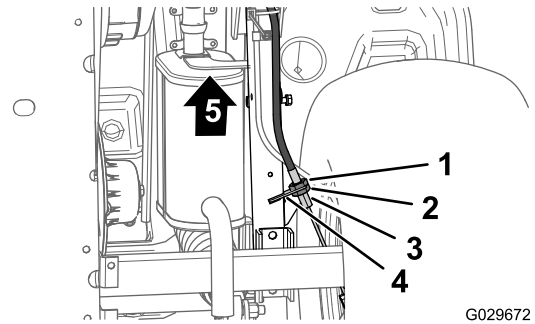

Figure 71
3. At the bottom of the machine, loosen the rear-jam nut for the threaded adjuster of the parking-brake cable 4 turns (Figure 71).
4. Tighten the forward jam nut (Figure 71).
- A. Loosen the forward-jam nut (Figure 71) for the threaded adjuster of the parking-brake cable 1 turn.
- B. Tighten the rear jam nut (Figure 71).
- A. Loosen the rear-jam nut (Figure 71) for the threaded adjuster of the parking-brake cable 1 turn.
- B. Tighten the forward jam nut (Figure 71).